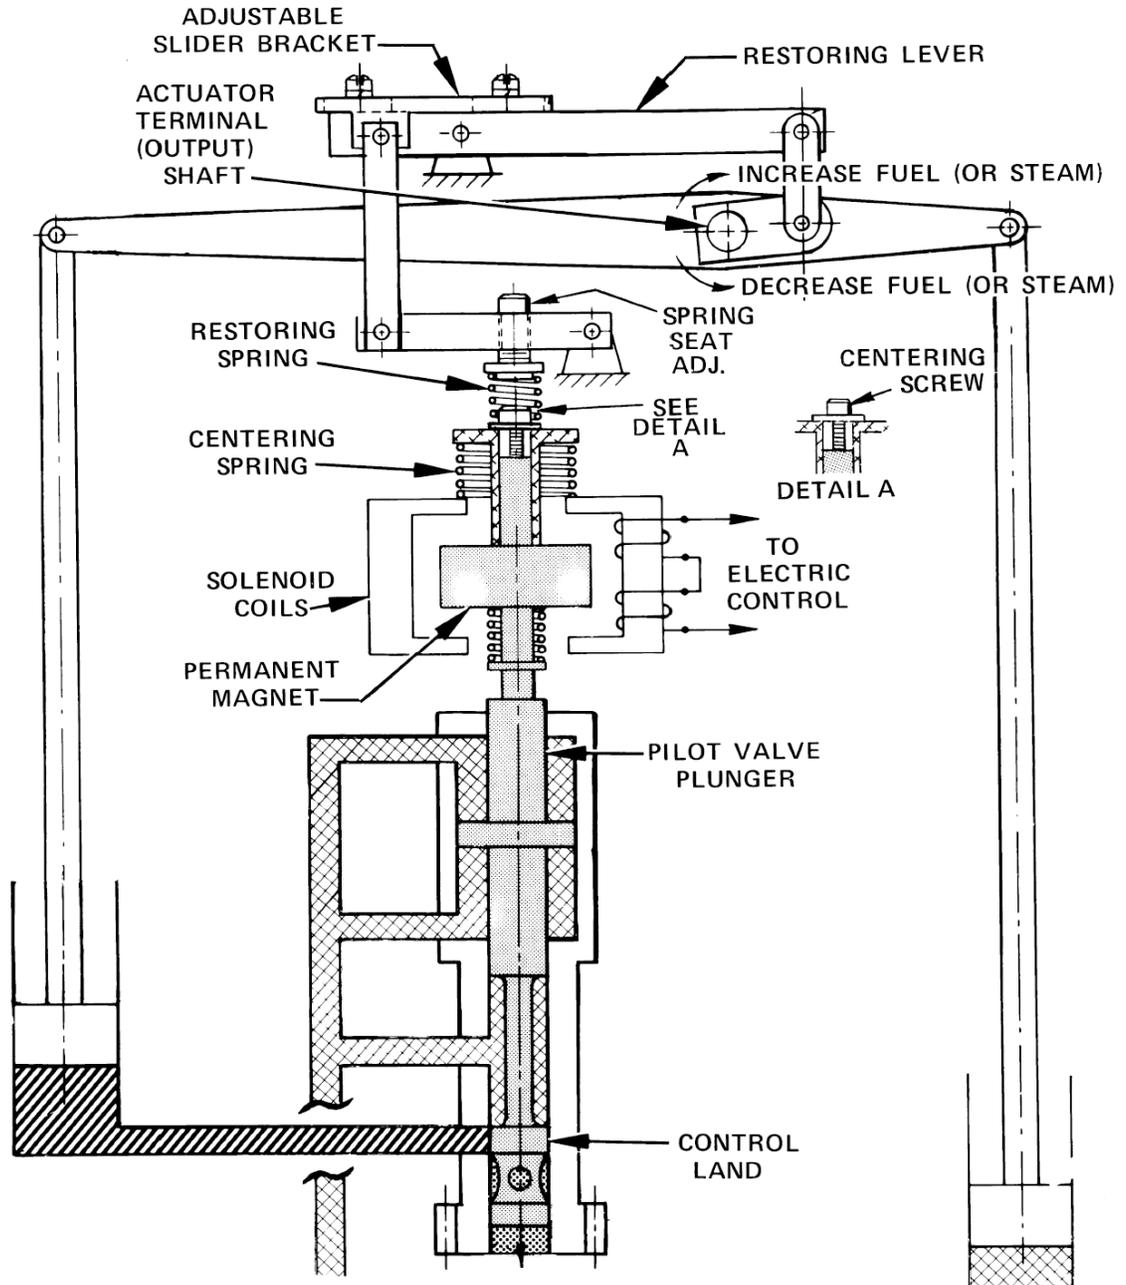

Figure 1. Pilot Valve Bushing and Plunger Assembly
Install the actuator on the test stand in the same position as it will be on the prime mover. Insert a 7/64 inch Allen wrench through the clearance hole in the cover, through the hollow center of the adjustable spring seat and engage the centering screw. See Figure 1. Gently bottom the centering screw by adjusting it clockwise and then back it out 1 to 1-1/4 turns for a starting adjustment.
- Figure 1 shows the pilot valve bushing and plunger assembly of an actuator.